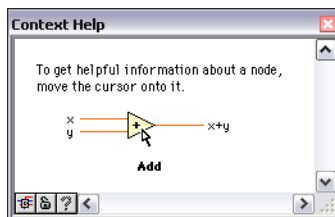

Figure 2-2. Context Help Window
1. Select **Help»Show Context Help** from the front panel or the block diagram to display the **Context Help** window, shown in Figure 2-2. You also can click the **Show Context Help Window** button, shown at left, on the front panel or block diagram toolbar to display the **Context Help** window.